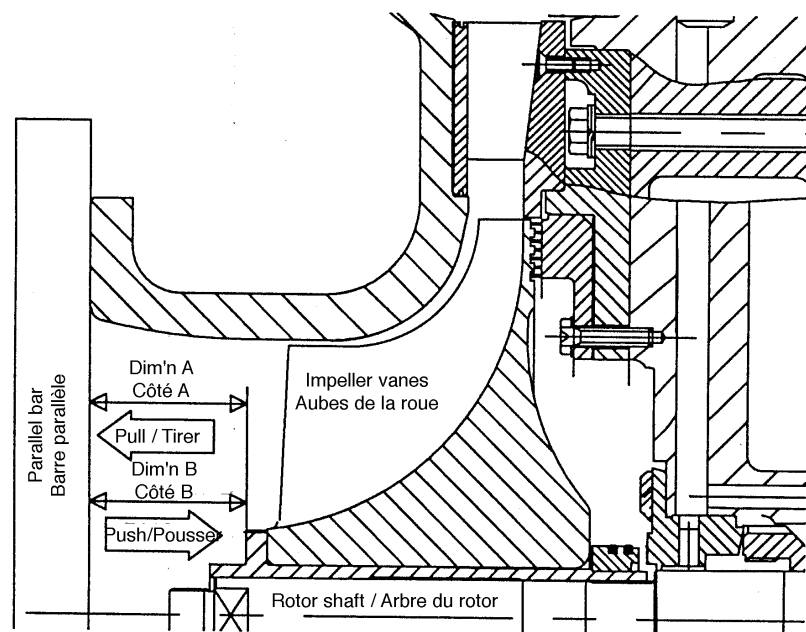

Fig. 15-19
- Place a bar parallel to the open flange of the casing. See Fig. 15-19.